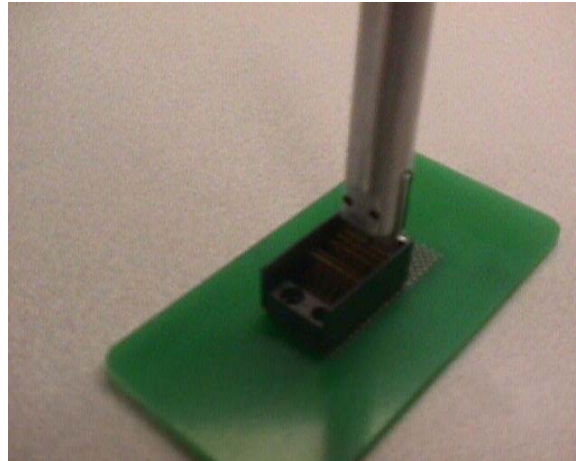

Figure 2
- Step 2 To replace the pin, slowly insert the tool into the backplane insulator. Make sure that the ribs on the tool aligns with the backplane insulator slots as shown in Figure 2. Make sure that the tool is